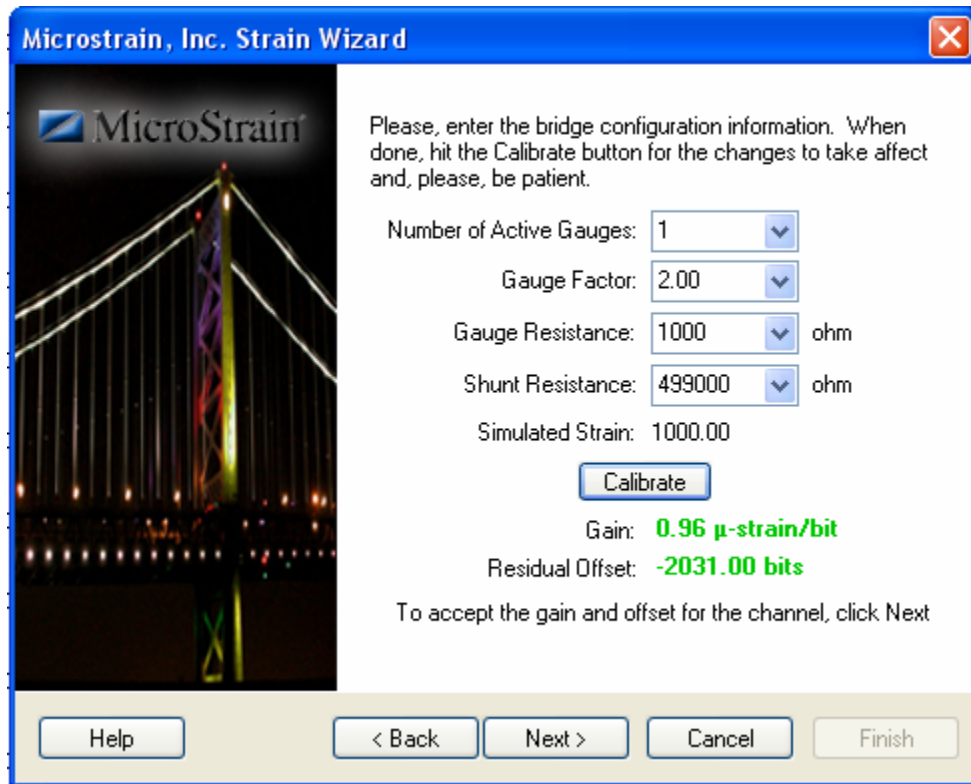

Figure 7
- Click Accept to move to the next view as exemplified in **Figure 7**.